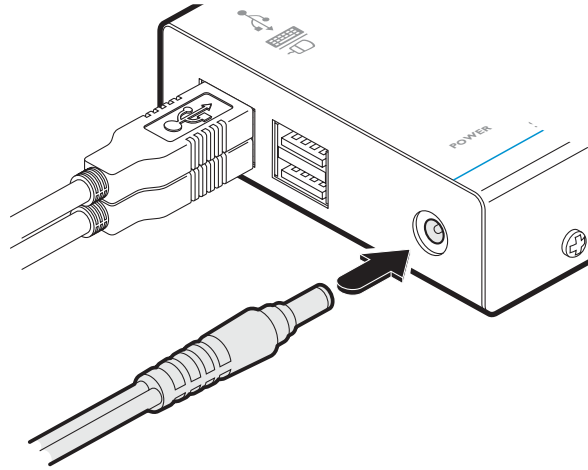

Figure 3-21. Attaching the power adapter connection
- 1 Connect the output lead of the supplied power adapter to the socket labeled '**POWER**' on the remote module as shown in Figures 3-21 and 3-22: